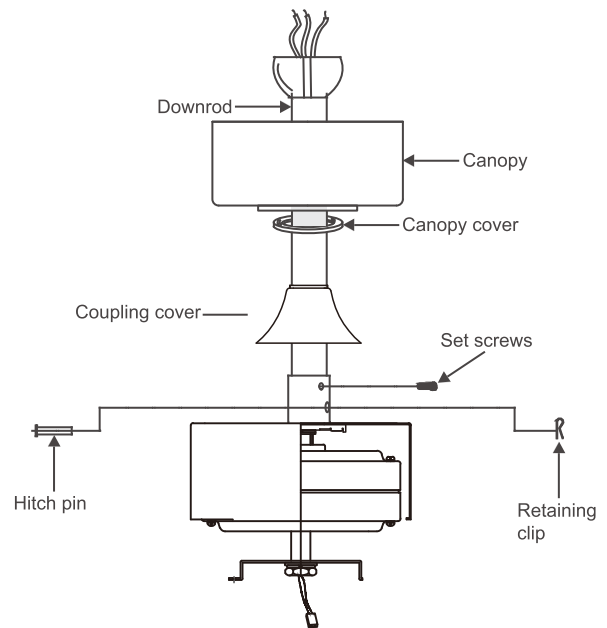

Fig 6
Step 4. Slip orderly the canopy, canopy cover and coupling cover onto the downrod upwards; and then feed the lead wires from fan motor pass through the downrod; and then install the downrod onto the coupling (Fig.6)
Step 5. Insert the Hitch Pin through the downrod and then re-install the Retaining clip; then tighten the set screws. (Fig. 6)